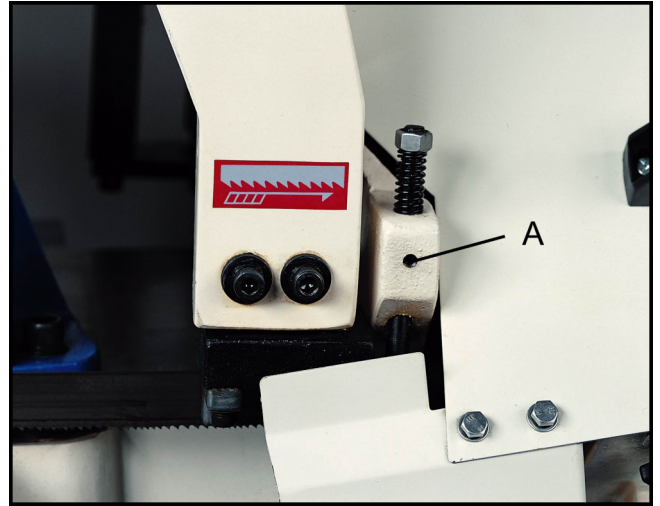

Fig. 5
4. Loosen set screw (A, Fig.5) and lower the blade cleaning brush.